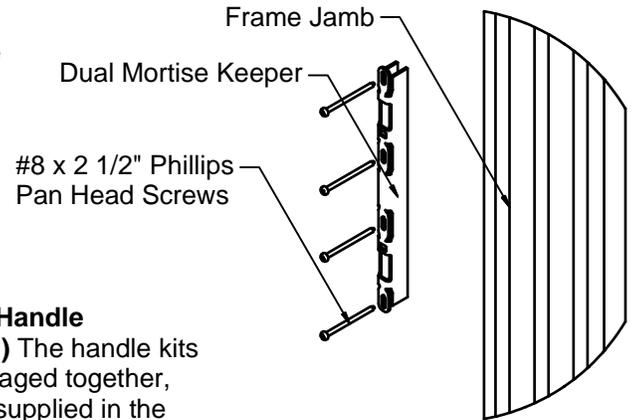

Figure 12.
Step 18. (Keeper Installation) To complete the frame installation, use the supplied #8 x 2 1/2" stainless steel phillips pan head screws to install the dual mortise keeper. There will be dimples in the frame jambs to help locate the keeper (See Figure 12). Install the keeper at each frame jamb before proceeding to the next step.